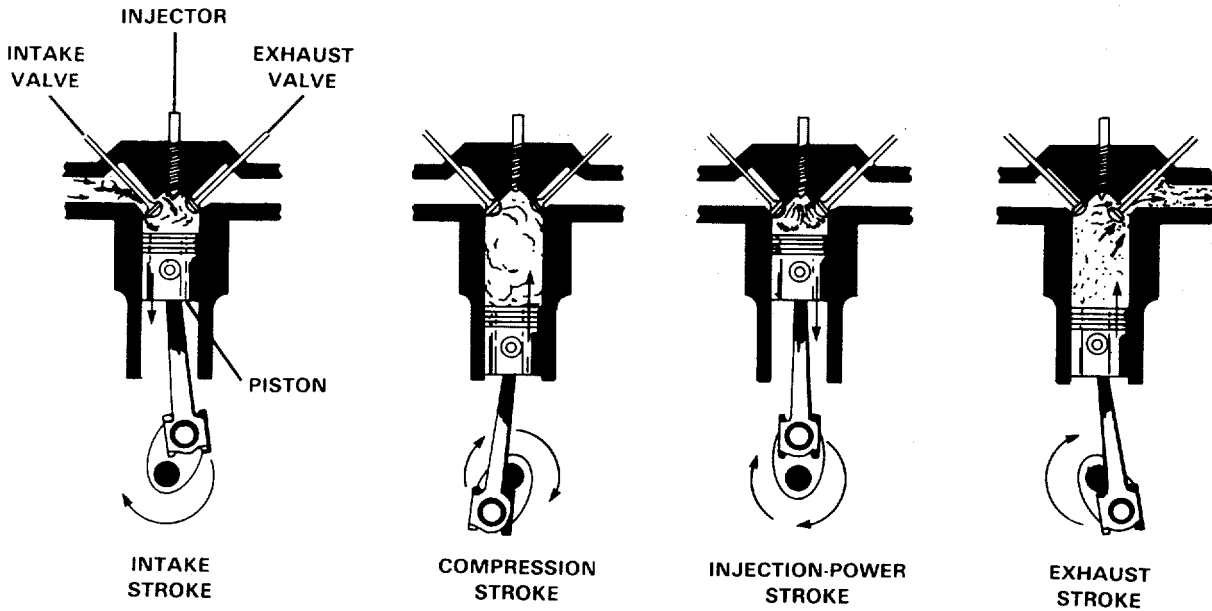

FIGURE 1-2. Diesel Engine.
a. **Diesel Engine Cycles.** The diesel engine four stroke combustion cycle consists of four piston strokes. The four strokes happen in this order: intake stroke, compression stroke, power stroke, and exhaust stroke (FIG. 1-2). In order for the four strokes to function properly, valves and injectors must act in direct relation to each of the four strokes of the piston. The intake valves, exhaust valves, and injectors are camshaft actuated, linked by tappets or cam followers, push rods, rocker levers, and valve crossheads. The camshaft is driven by the crankshaft gear, and that means rotation of the crankshaft drives the camshaft, which then controls the opening and closing sequence of the valves and injection timing (fuel delivery).